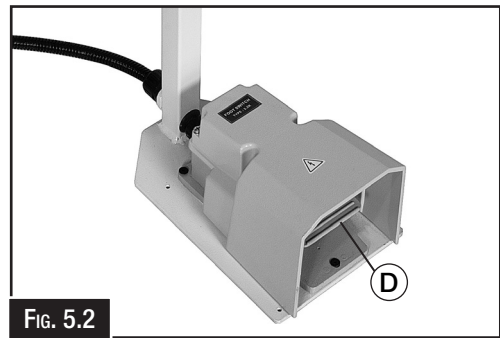

Fig. 5.2
D. Foot Pedal: When pressed operates the hammer action of the machine. (D in Fig. 5.2)